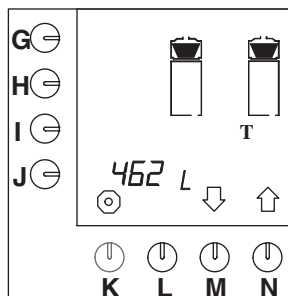

Fig. 19 Total counter coffee-making system
- The total counter appears on the display. The total number of litres of coffee that have been made during the lifetime of the machine can be read from the display (fig. 19 ).